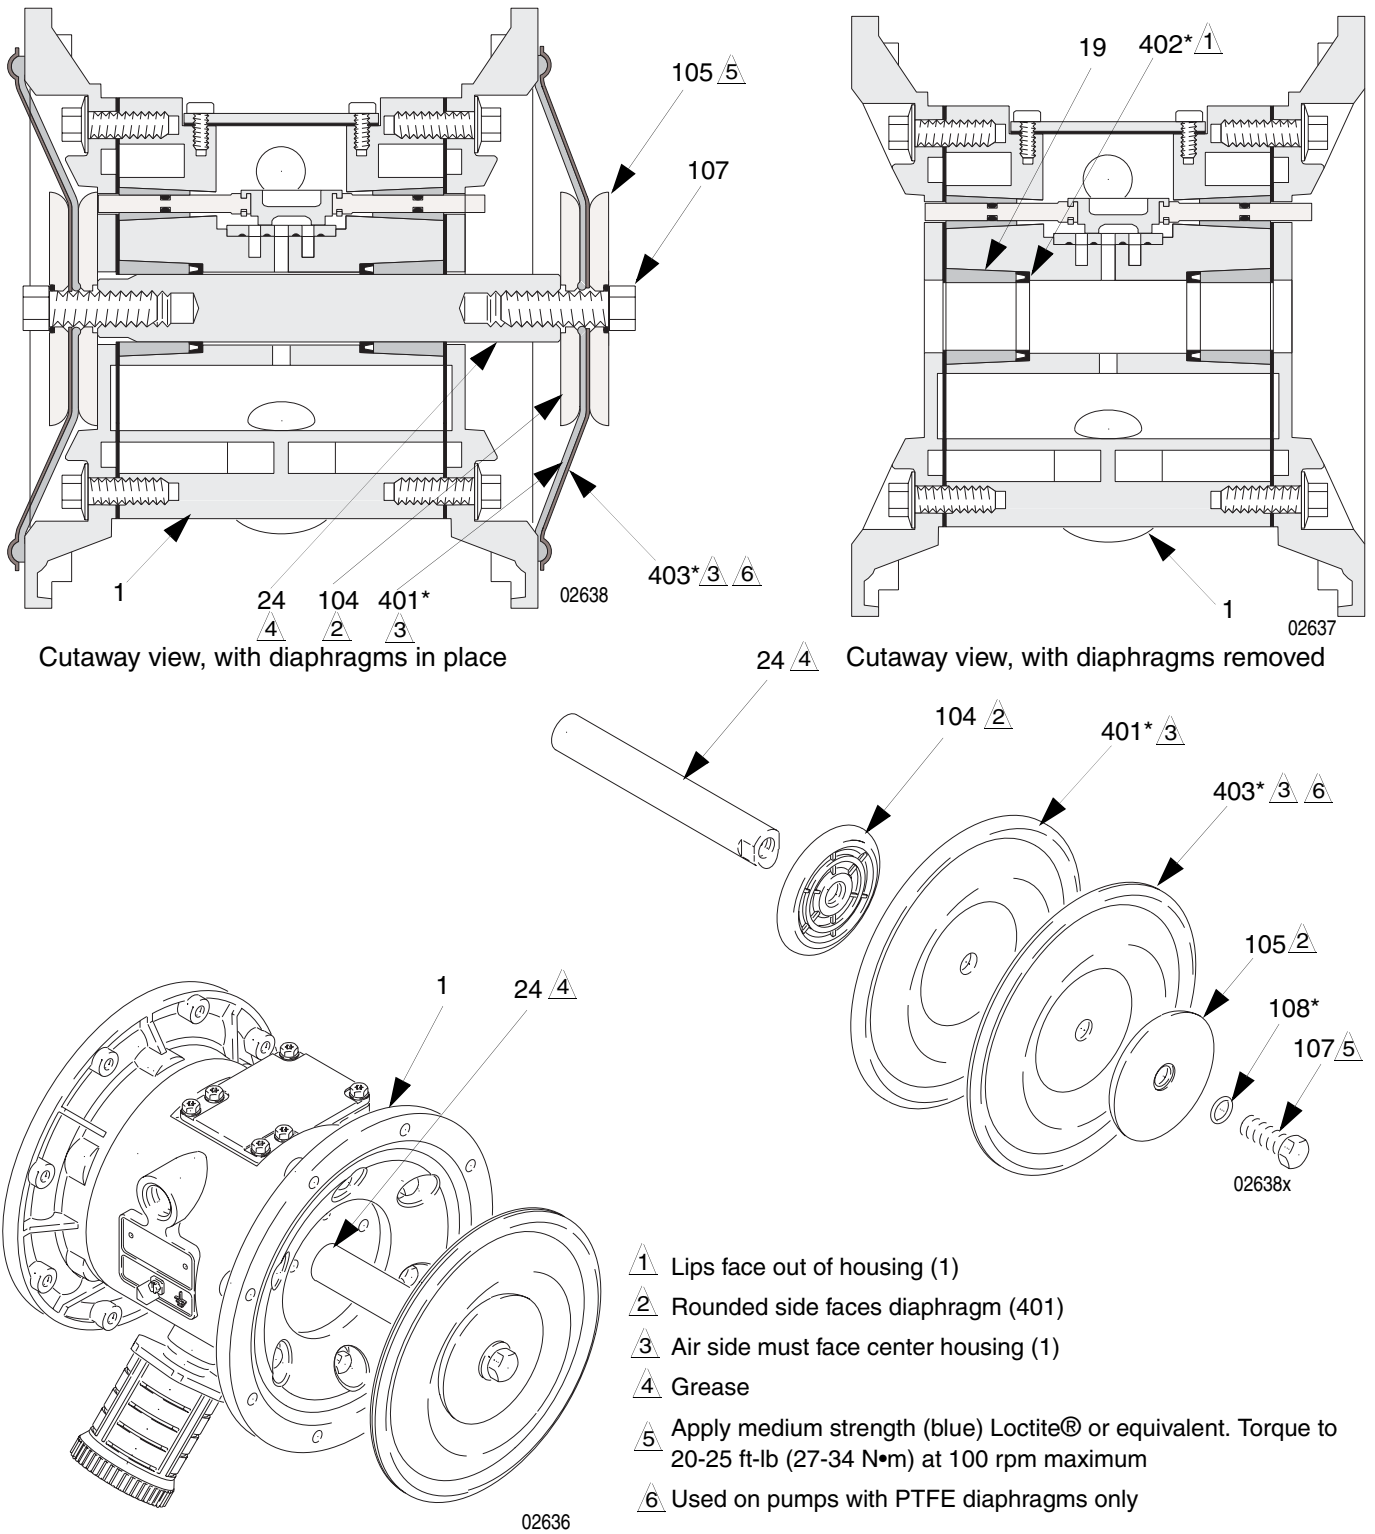
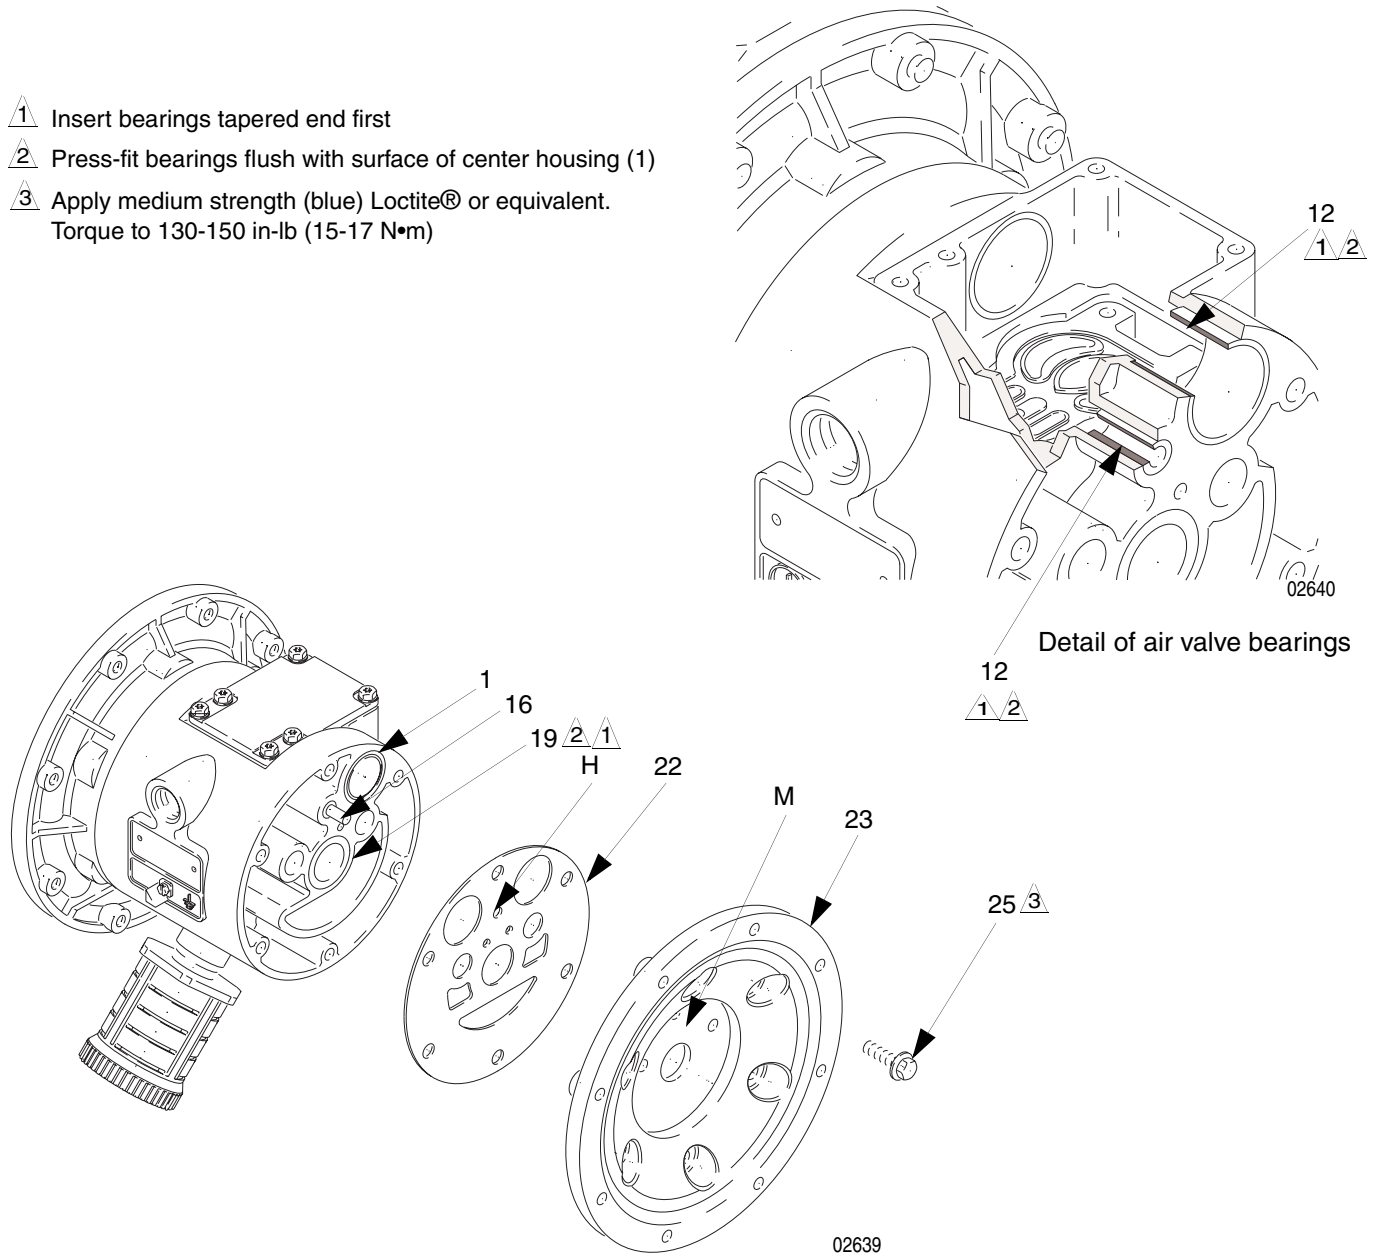

FIG. 11
FIG. 12
5. Unscrew one bolt from the diaphragm shaft (24) and remove the o-ring (108), fluid side diaphragm plate (105), PTFE diaphragm (403, *used on PTFE models only*), diaphragm (401), and air side diaphragm plate (104). See FIG. 11.
6. Pull the other diaphragm assembly and the diaphragm shaft (24) out of the center housing (1). Hold the shaft flats with a 19 mm open end wrench, and remove the bolt (107) from the shaft. Disassemble the remaining diaphragm assembly.
7. Inspect the diaphragm shaft (24) for wear or scratches. If it is damaged, inspect the bearings (19) in place. If the bearings are damaged, refer to page 22.
8. Reach into the center housing (1) with an o-ring pick and hook the u-cup packings (402), then pull them out of the housing. This can be done with the bearings (19) in place.
- c. *On PTFE models only*, install the PTFE diaphragm (403*). Make certain the side marked AIR SIDE faces the center housing (1).
- d. Install the diaphragm (401*) on the bolt. Make certain the side marked AIR SIDE faces the center housing (1).
- e. Install the air side diaphragm plate (104) so the rounded side faces the diaphragm (401). This plate is used on all models, and is stamped with its part number.
- f. Apply medium-strength (blue) Loctite® or equivalent to the bolt (107) threads. Screw the bolt into the shaft (24) hand tight.
1. Install the shaft u-cup packings (402*) so the lips face **out** of the housing (1). Lubricate the packings. See FIG. 11.
2. Install the diaphragm assembly on one end of the shaft (24) as follows:
- a. Install the o-ring (108*) on the shaft bolt (107).
- b. Install the fluid side diaphragm plate (105) on the bolt so the rounded side faces the diaphragm (401).
5. Using a 10 mm socket wrench, remove the screws (25) holding the air covers (23) to the center housing (1). See FIG. 12.
6. Remove the air cover gaskets (22). Always replace the gaskets with new ones.
7. Use a bearing puller to remove the diaphragm shaft bearings (19), air valve bearings (12) or pilot pin bearings (15). Do not remove undamaged bearings.
8. If you removed the diaphragm shaft bearings (19) reach into the center housing (1) with an o-ring pick and hook the u-cup packings (402), then pull them out of the housing. Inspect the packings. See FIG. 11.
1. If removed, install the shaft u-cup packings (402*) so the lips face **out** of the housing (1).
2. The bearings (12, 15, and 19) are tapered and can only be installed one way. Insert the bearings into the center housing (1), **tapered end first**. Using a press or a block and rubber mallet, press-fit the bearing so it is flush with the surface of the center housing.
4. Align the new air cover gasket (22) so the pilot pin (16) protruding from the center housing (1) fits through the proper hole (H) in the gasket.
5. Align the air cover (23) so the pilot pin (16) fits in the middle hole (M) of the three small holes near the center of the cover. Install the screws (25), handtight. Apply medium-strength (blue) Loctite® or equivalent to the threads of the screws (25). See FIG. 12. Using a 10 mm socket wrench, torque the screws oppositely and evenly to 130-150 in-lb (15-17 N•m).
- 2 Press-fit bearings flush with surface of center housing (1)